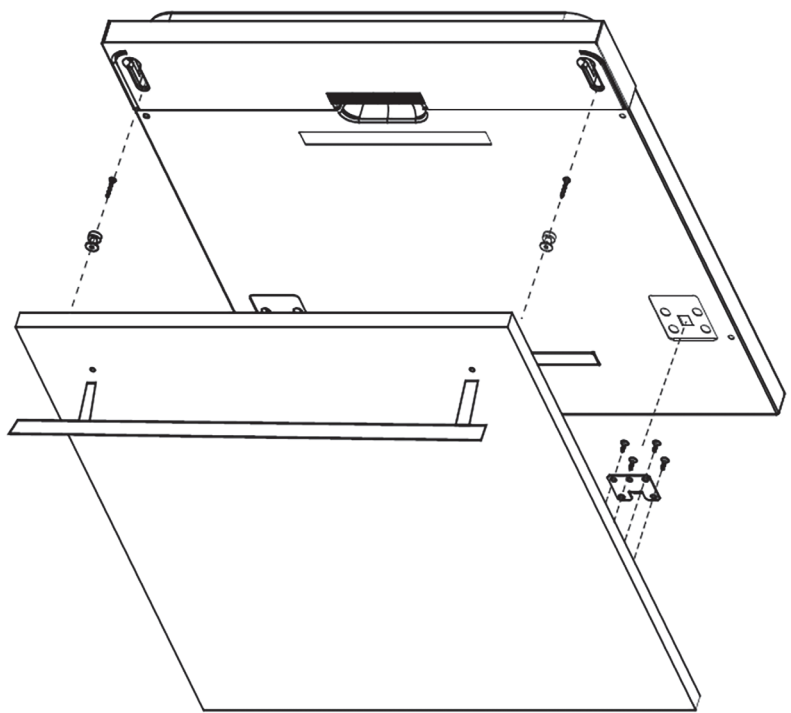
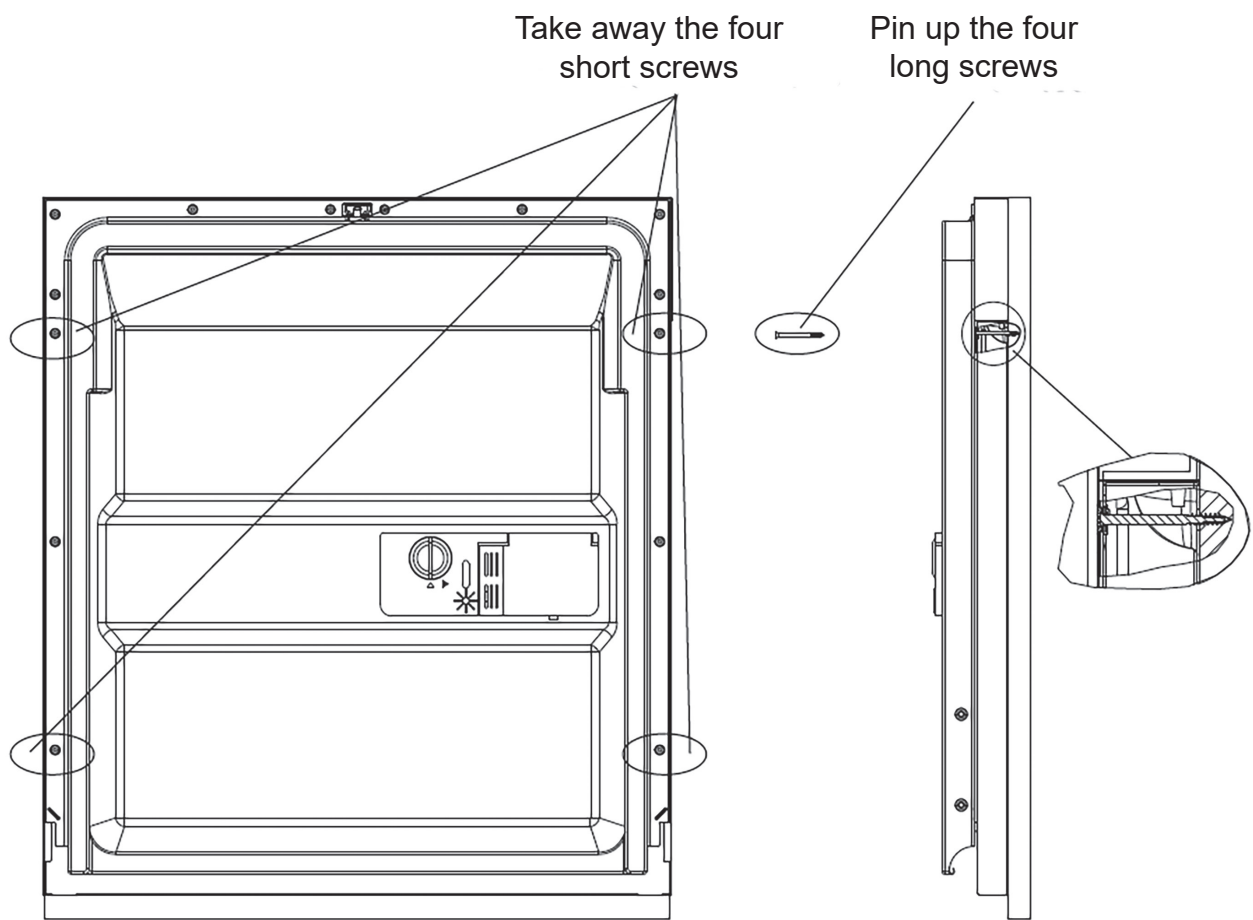

Figure 4a
Figure 4b
2. Install the hook on the aesthetic wooden panel and put the hook into the slot of the outer door of dishwasher(see figure 4a). After positioning of the panel , fix the panel onto the outer door by screws and bolts(See figure 4b) .